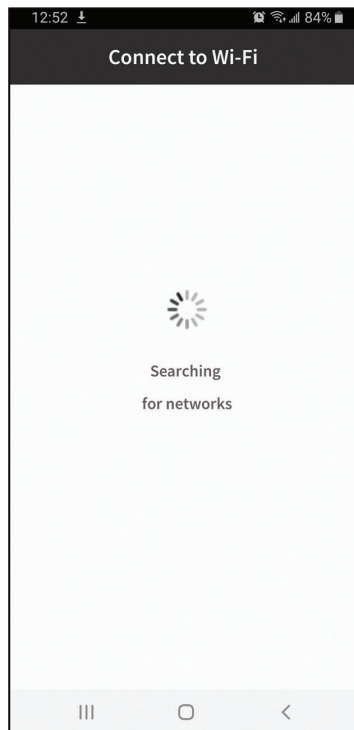

Fig. 7
6. Select desired Wi-Fi and connect by entering the Wi-F password of your home (**Fig. 7 & 8**).